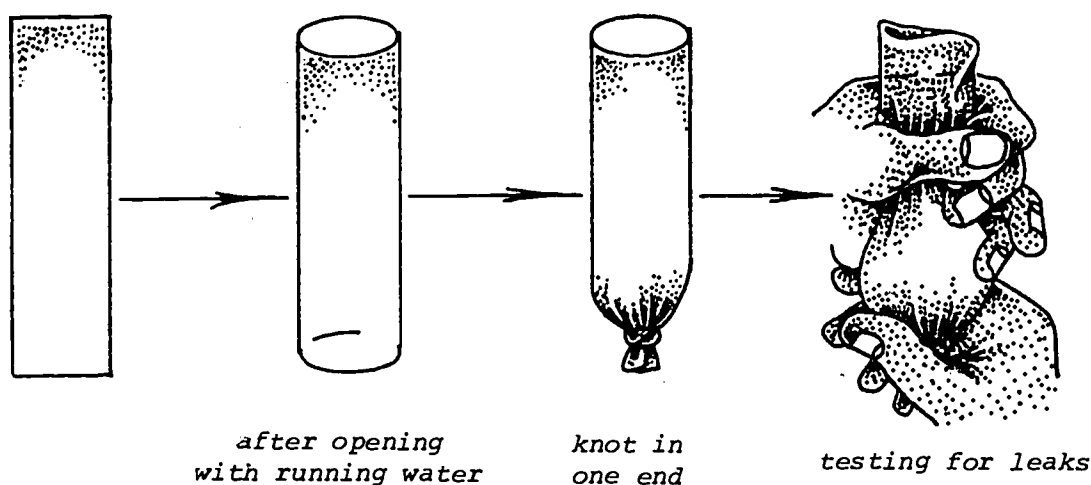

FIGURE 1: *Preparing and testing the dialysis membrane.*
2. Although the dialysis membrane looks like a sheet of cellophane, it can be opened up into a tube (see Figure 1 on the next page). To open the tube, hold one of the cut ends of the membrane under running water for about 30 seconds, until you feel the sides come unstuck. Run water through the tube to open it completely. Tie a tight knot in one end, being careful not to puncture the membrane with a fingernail. Check for leaks as shown in Figure 1. Pour about 30 ml of water into the tube, hold the open end closed and squeeze gently on the water. Then empty the tube of water. If there is a leak, use a fresh membrane. Complete this step for both of your membranes.